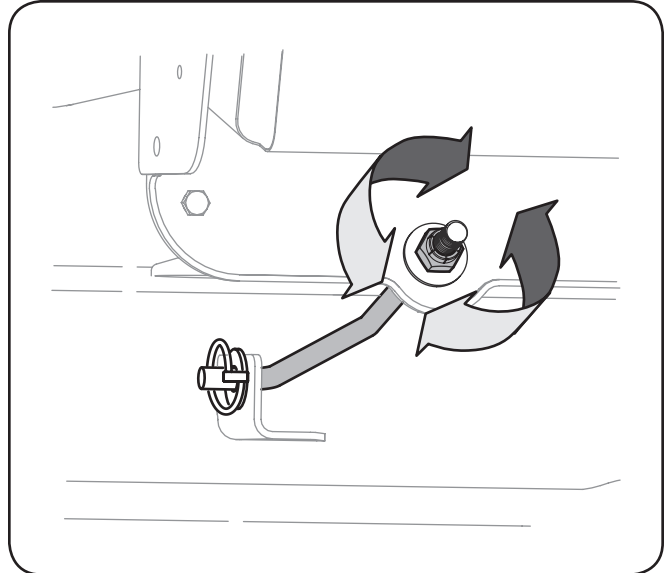

Figure 6-4
1. To *raise* the front of the deck, tighten (thread inward) the hex nut against the front hanger bracket. See Fig. 6-4.
2. To *lower* the front of the deck, loosen (thread outward) the hex nut, away from the front hanger bracket. See Fig. 6-4.